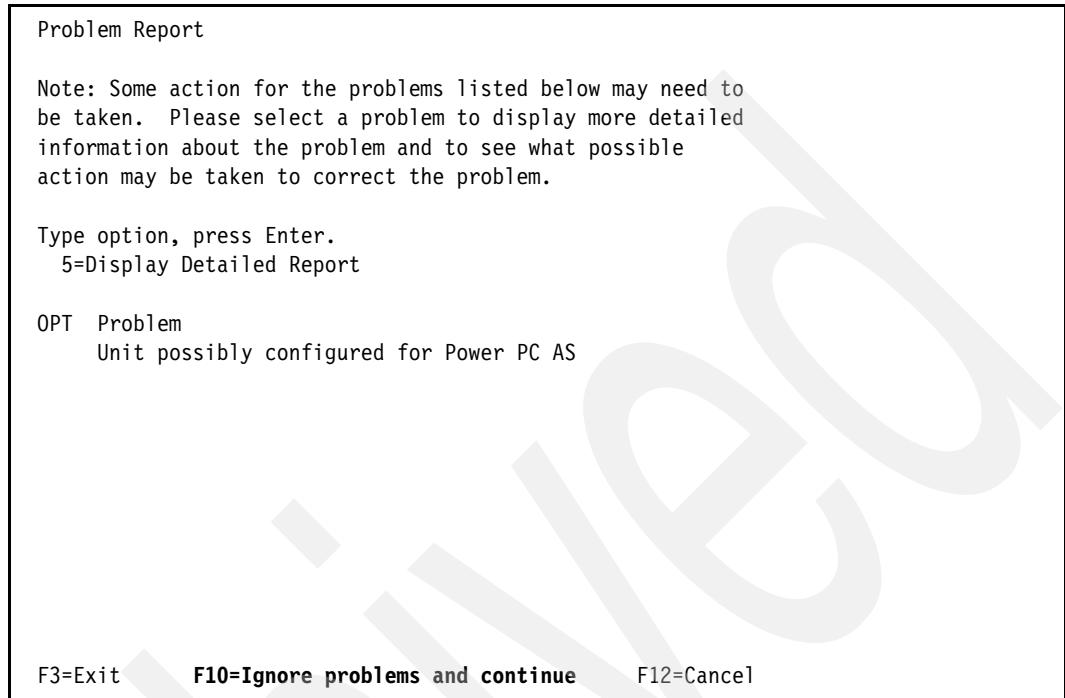

Figure 6-82 IBM i DST Problem Report panel
21. We press F10=Ignore problems and continue on the warning panel about the units possibly configured for POWER PC AS, as shown in Figure 6-82, which wants to alert us to not erroneously destroy data from disk units possibly used by another OS like AIX.